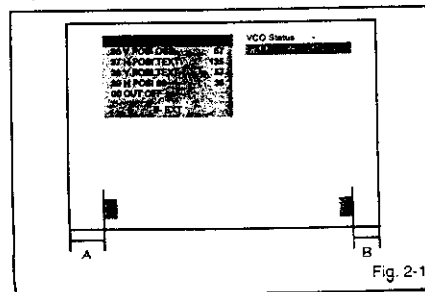

Fig. 2-1
3. Press the VOL. UP/DOWN button on the remote control until the difference of A and B becomes minimum. (Refer to Fig. 2-1)